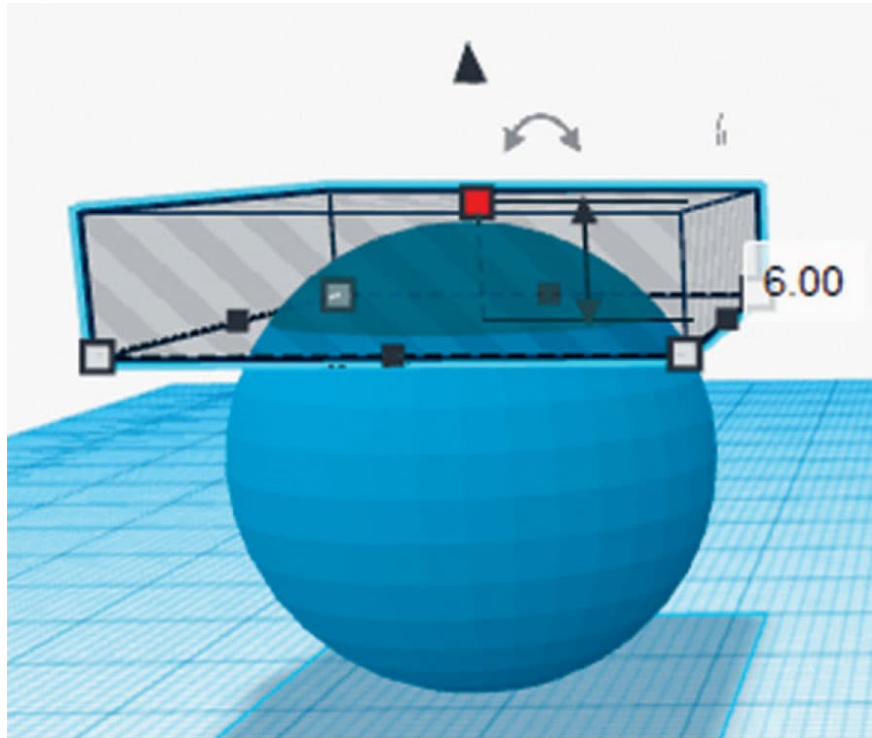
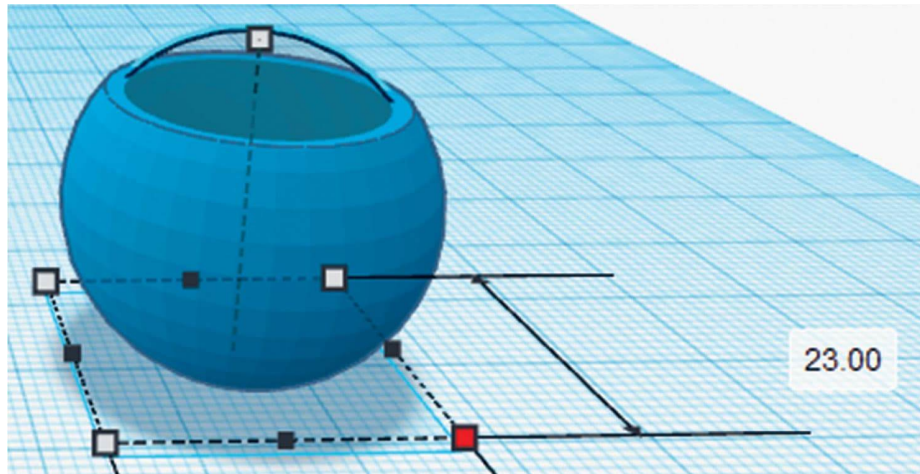

FIG. 1: Position a rectangular hole over a sphere to slice off the top of the sphere.
FIG. 2: Group the rectangular hole and the sphere.
1. Create a sphere, 25 mm diameter, using the **Sphere** tool. Then slice about $\frac{1}{4}$ off the top using a **Rectangular Hole** tool as shown in fig. 1. Group the rectangular hole and the sphere together to get the initial socket frame (fig. 2).
2. Now we will hollow out the socket frame. Create a **Sphere Hole** with 23 mm diameter. Move it so it fits inside the sphere from step 1 evenly on all sides (concentric) (fig. 2). Group the internal hole-sphere and external socket spheres to form the hollowed-out socket.